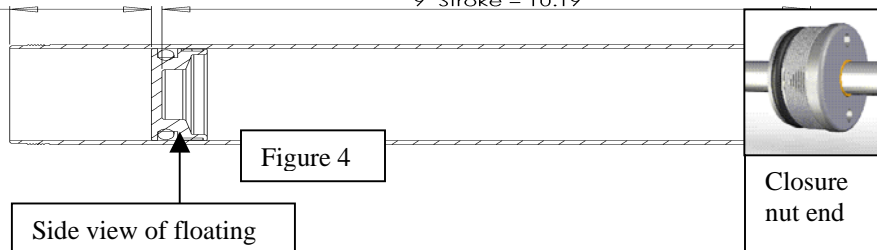

Figure 4
8. Measure the floating piston depth by placing a straight edge across the end of the body and measure straight down to the deepest part (center) of the floating piston. Refer to Figures 4, 5 & 6 for proper depth. If the distance is correct, then no adjustment of the floating piston is necessary and you may skip steps 9 & 10.
9. If the floating piston distance is incorrect, place the shock in the body clamp with the cap facing up. Using the proper wrench, remove the cap from the body. This allows easy access to move the floating piston up or down. Take the shock out of body clamp and set the floating piston height. See Figure 4 for proper floating piston heights.